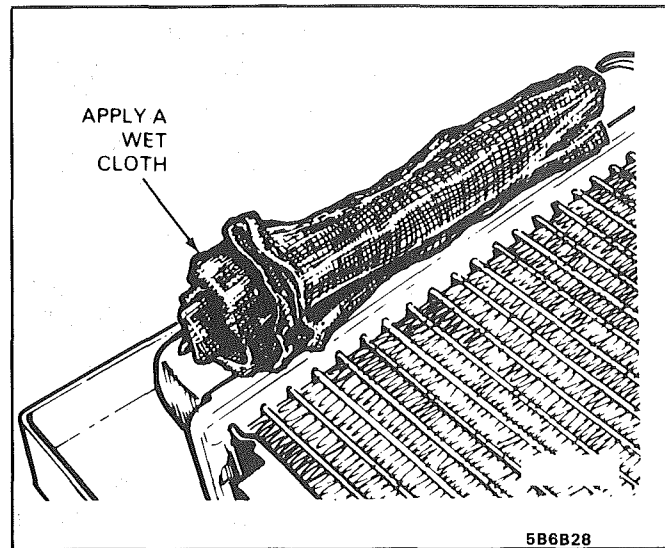
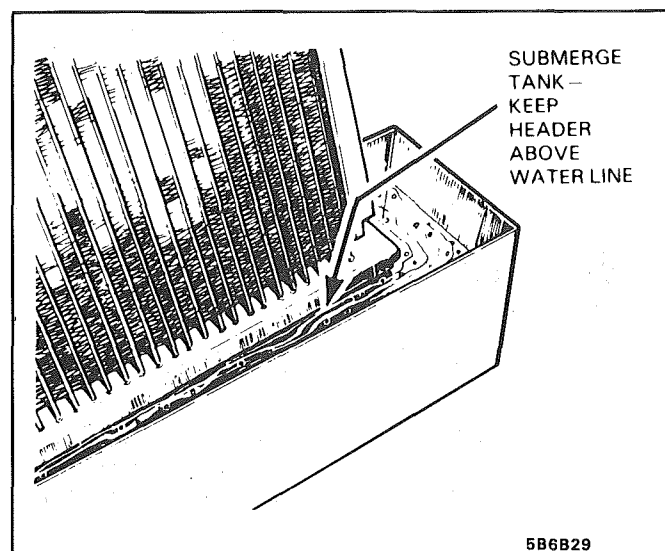

Fig. 16 Using Wet Cloth on Side Tank
Fig. 17 Submerging Side Tank
If the header or a tube near the header requires a repair, the side tank does not have to be removed. A damp cloth can be placed against the side tank where the repair has to be made (Fig. 16). The side tank can also be submerged in a tank of water up to the header (Fig. 17).
2. Apply a wet cloth if you are working near the plastic tanks or the joints between the core tubes and header (Fig. 16); or submerge the tank in water (Fig. 17).